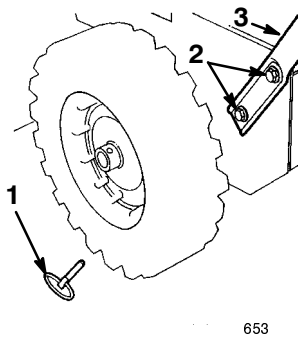

Figure 2
2. Remove the axle pins from both wheels (Fig. 2) and slide the wheels outward on the axle approximately one inch (2.5 cm).
5. Secure the left handle with two cap screws and curved washers until they are finger tight (Fig. 2).